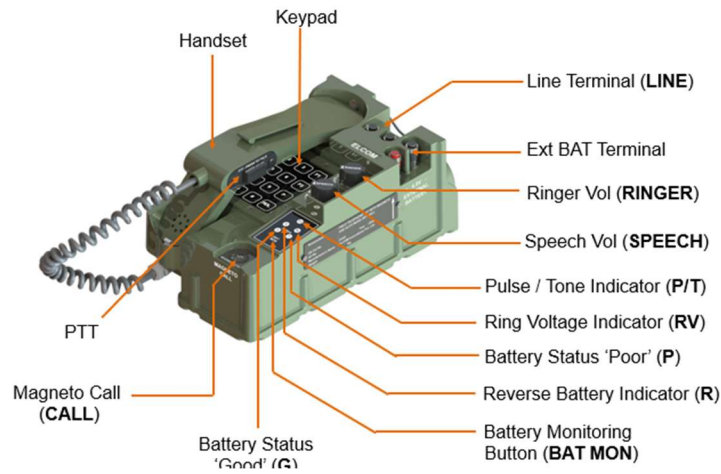
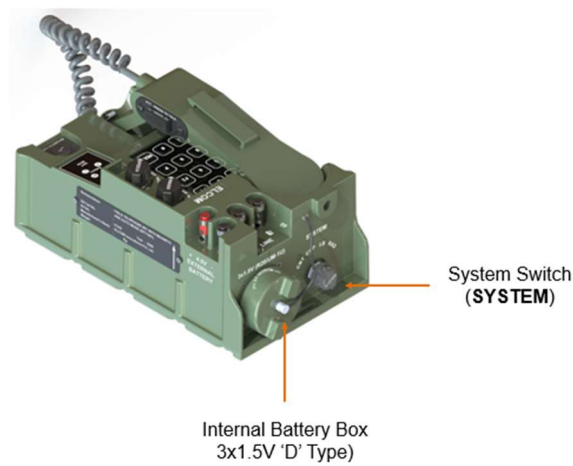
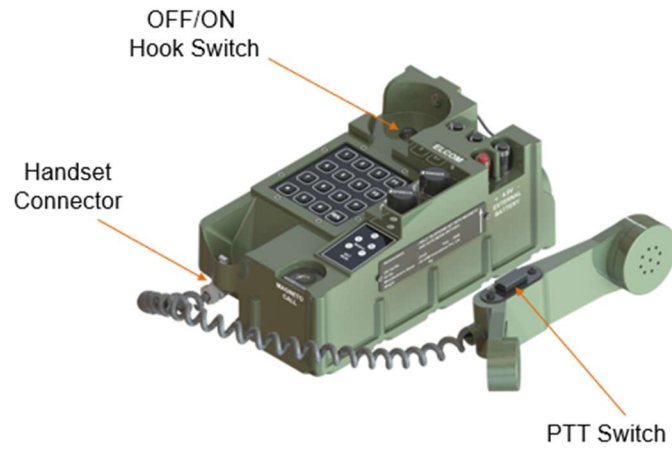

Figure 5: Controls, Terminals & Indicators
Figure 6: SYSTEM Switch & Battery Box of RFT1001
Figure 7: Handset Connector, Hook Switch & PTT
Figure 5 and Figure 6 illustrate various controls, terminals, keys and buttons on the field telephone.
In CBT, CBP, LB and RAD mode, the field wires are to be terminated in the line terminals. Line wires will have 2 wires which can be connected to Line Terminals in any of the polarity. Figure 5 shows the terminals for terminating the line.
The Incoming Ring Voltage indicator (RV) on the field telephone, shown in Figure 5, will indicate the presence of ringer voltage in the telephone line. This LED will light up when there is an incoming call to the telephone either in CBT or CBP or LB mode.
RFT1001 has a **BAT MON** key as shown in Figure 5, which is used to view the status of the internal battery. When BAT MON key is pressed, indicators G & P are used to know the battery status (refer chapter 3.3.8).
When the field telephone is in LB mode, for making an outgoing call on the line, the **MAGNETO CALL** button has to be pressed for generating a ringing voltage and sending it across the line. The voltage will be generated as long as the **MAGNETO CALL** button is being pressed. Magneto Call Button is shown in the Figure 5.
This is a 4-position rotary switch in the phone set as shown in Figure 6. The various operation modes can be set via this switch. The position is marked as shown below:
It is used to connect the handset to the RFT1001 as shown in Figure 7.
OFF-ON Hook switch is shown in Figure 7. Through this switch only, RFT1001 detects whether handset is kept on phone or not. If handset is kept on phone properly, this position is called 'ON-Hook' & if handset is
The Press-to-talk (PTT) switch is present on the handset of the field telephone. This switch is to be pressed to activate the microphone of the handset. This is applicable only in LB & RAD mode. There is no need to press PTT in CBT & CBP mode for making a conversation. PTT with handset is shown in the Figure 5 & Figure 7.